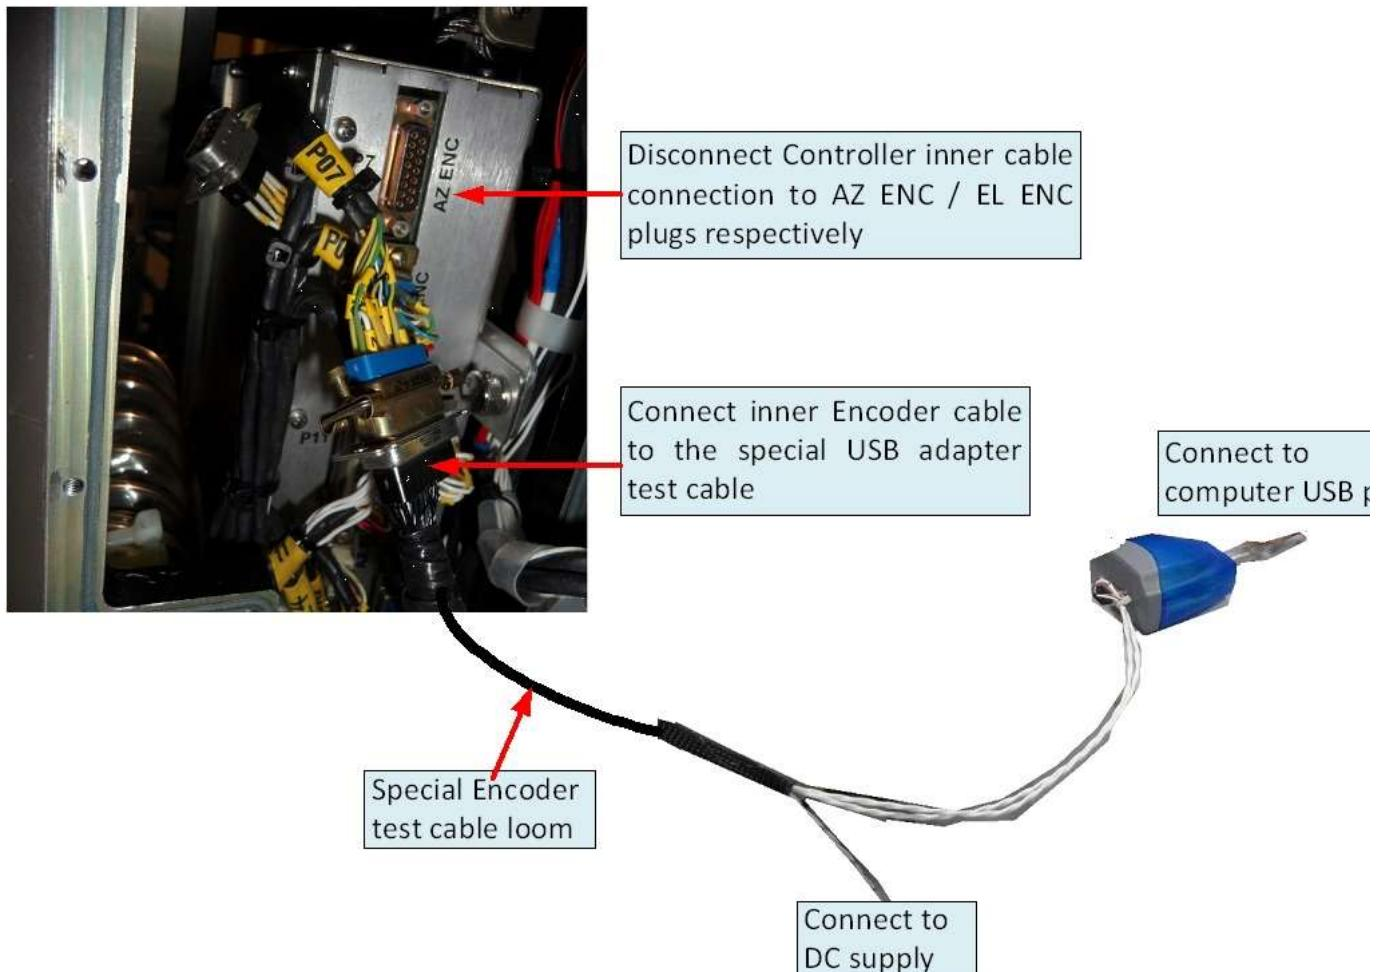

Figure 1-5. Encoder Connection for Calibration
- b. All cabling is routed properly on plane surface (As specified in Figure 1-5)
- d. Connection of Encoder USB adapter to computer side and Elevation encoder cable plug (P08) (As specified in Figure 1-5)